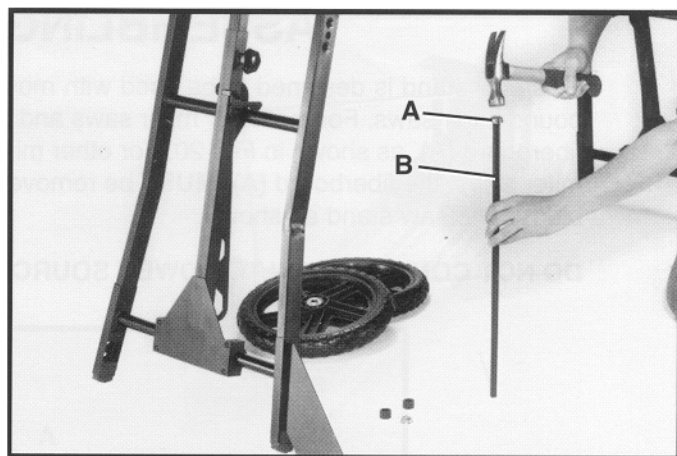

Fig. 16
1. Locate axle and axle cap and carefully hammer axle cap (A) onto one end of axle (B), as shown in Fig. 16.